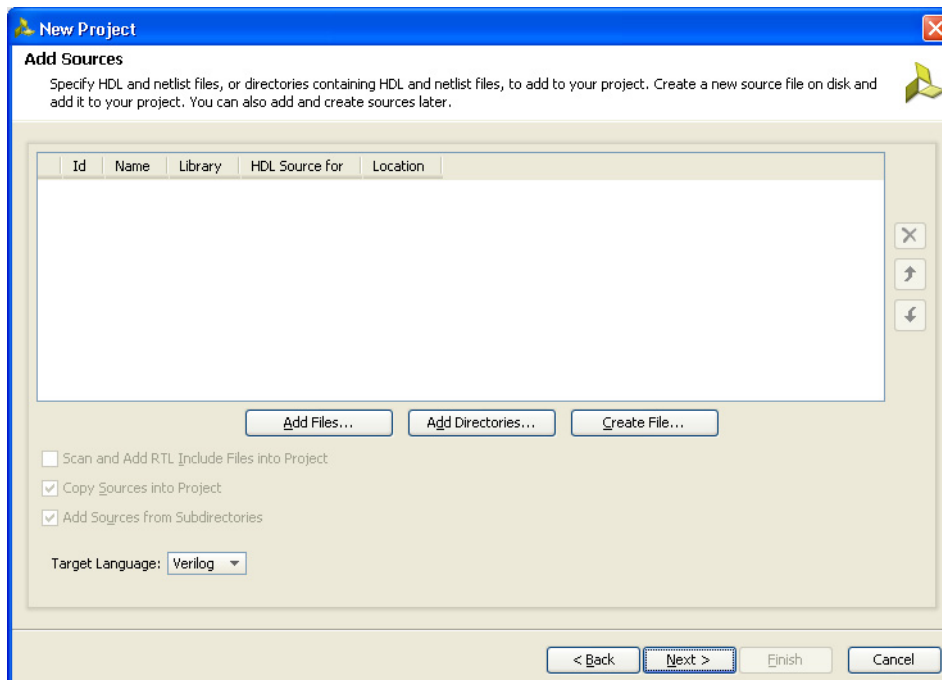

Figure 1-5: Add Sources
5. Click **Next** to proceed to the Add Sources page (Figure 1-5). RTL files can be added to the project in this page. If the project was not created earlier, proceed to the next page.